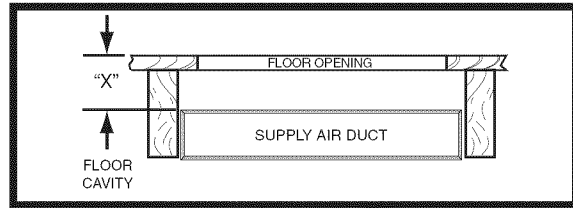

Figure 9. Floor Cavity
4. Measure from the top of the floor down to the top of the supply air duct to obtain the depth of the floor cavity. **NOTE:** The depth of the floor cavity shown as "X" in Figure 9 (page 9) will determine the correct duct connector.